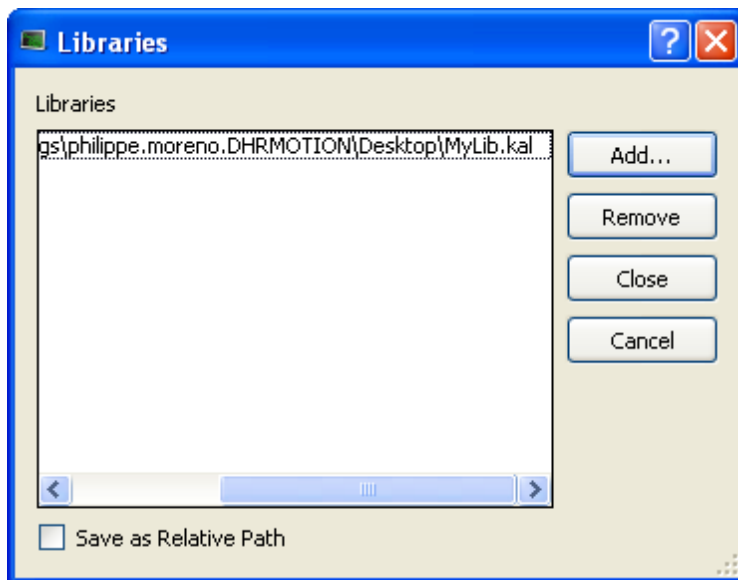

Figure 4-46: Use a Custom Library - Select the Library
- Enter the new path to this library (assuming it still exists on your machine) using the library dialog (see "Figure 4-46: Use a Custom Library - Select the Library " on page 268).